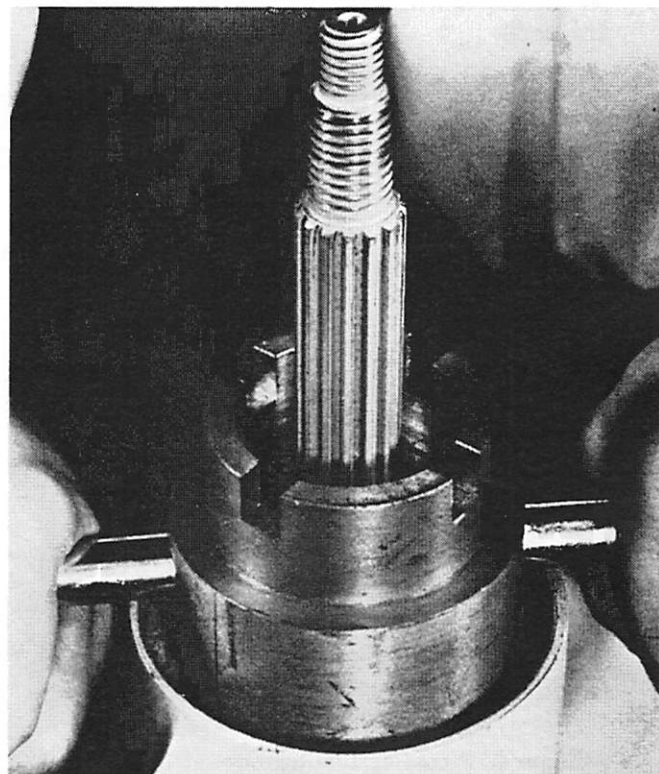

Figure 2. Removing Gear Case Cover
6. Remove gear housing cover and washer with Gear Housing Cover Tool (91-3029FA1). Place tool over end of propeller shaft and set tool into cover, turning counterclockwise (right hand thread) to loosen. (Figure 2) If tight, strike handle of tool with mallet to loosen.